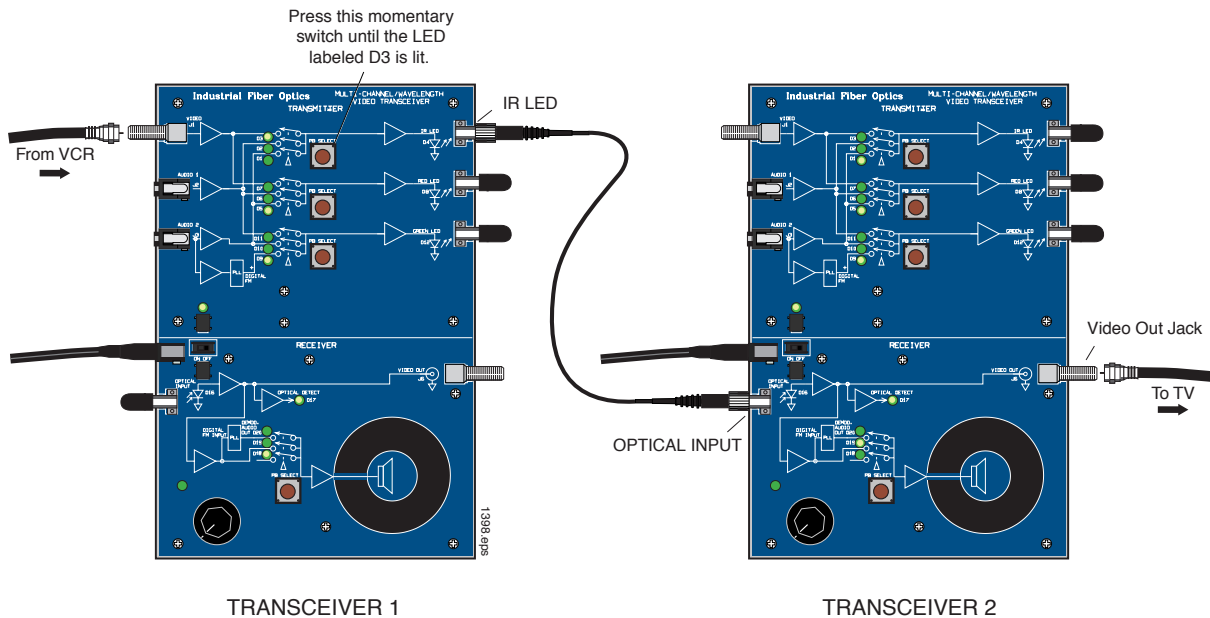

Figure 11. Detailed view of electrical and optical connectors on the two transceivers for demonstrating video transmission over optical fiber.
2. Connect the coaxial cable attached to the VCR to the Video input jack on Transceiver 1. See Figure 11.